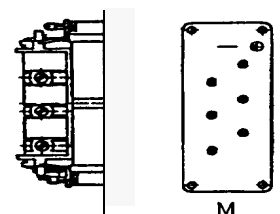

Figure 29 DIN male connector.
- 134** Connection via an industrial Harting 6HSB connector in accordance with DIN 41640. 35 A, 600 V, 6p + PE (see Figure 29).